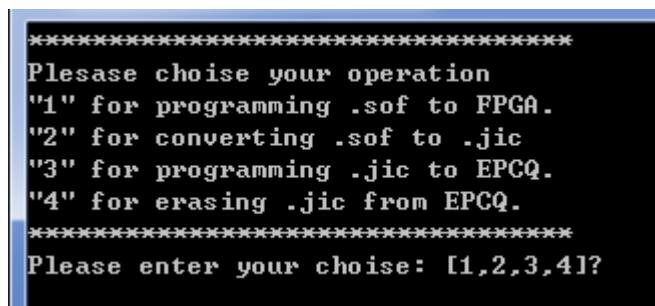

Figure 5-1 Batch file for download FPGA and EPCQ
- There is a demo_batch folder in the project. It is able to load the bit stream into the FPGA , programming or erasing .jic file to EPCQ by executing test.bat file as shown in the Figure 5-1.If user want to download the new design into the EPCQ, the easy method is to copy the new .sof file into the demo_batch folder and Execute the test.bat. Select the option “2” to covert the .sof to .jic firstly. Then using the option”3” to program .jic file into EPCQ.